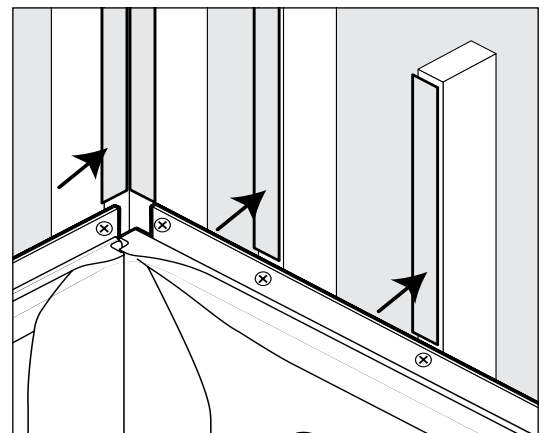

FIGURE 10. Shim studs.
- a. Shim studs with lattice strips or 1/4" luan so that finishing board will overlap nail flanges. If your wall extends past the shown alcove, it may be necessary to shim these studs. (Fig. 10)